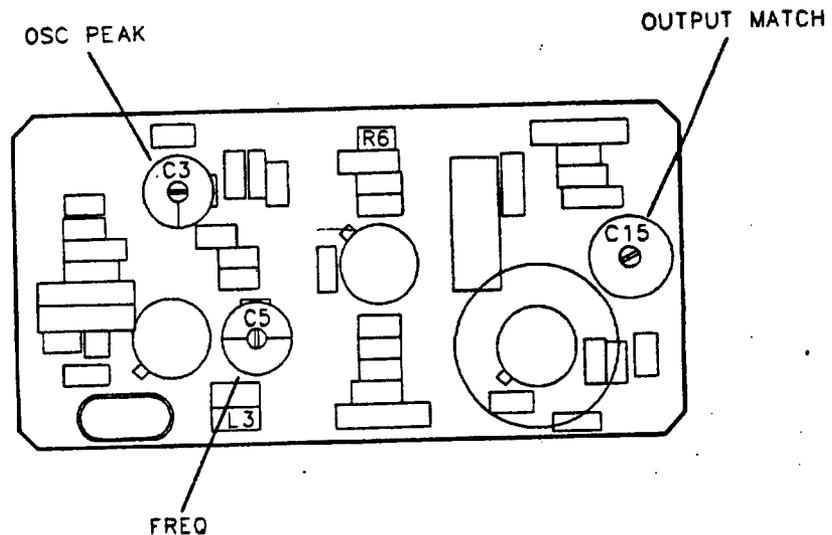

Figure 2-24. Comb Generator Component Location
14. Change the selected value of A3A1L3 to obtain an output frequency of $100.000500 \text{ MHz} \pm 0.004 \text{ MHz}$ with A3A1C5 FREQ centered. Increasing the value of A3A1L3 increases the output frequency of the comb generator. The frequency of the oscillator decreases about 500 Hz when the cover plate is installed. Refer to Figure 2-24 for component location.
20. Change the selected value of A3A1R6 to obtain an output power reading of +6.0 dBm \pm 0.8 dB. Increasing the value of A3A1R6 decreases the output power of the comb generator, while decreasing the value increases the output power. Refer to Figure 2-24 for component location.